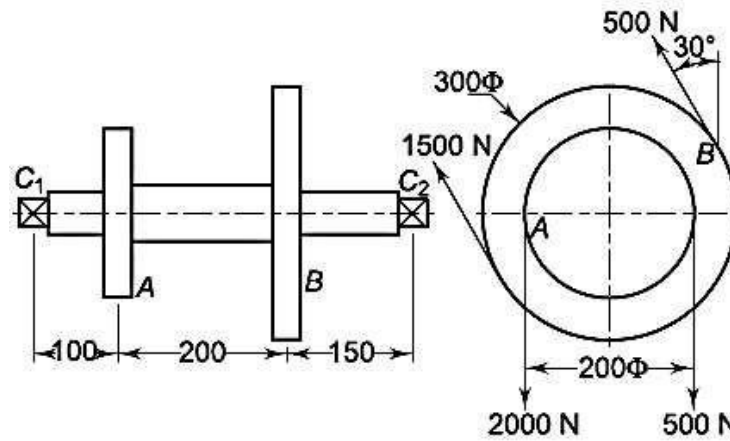

Figure 7.2
7. A transmission shaft, supporting two pulleys A and B and mounted between two bearings C_1 and C_2 is shown in Fig.7.2 Power is transmitted from the pulley A to B . The shaft is made of plain carbon steel 45C8 ($S_{ut} = 600 \text{ N/mm}^2$ & $S_{yt} = 380 \text{ N/mm}^2$). The pulleys are keyed to the shaft. Determine the shaft diameter using the ASME code if, $k_b = 1.5$ and $k_t = 1.0$. Also, determine the shaft diameter on the basis of torsional rigidity, if the permissible angle of twist between the two pulleys is 0.5° and the modulus of rigidity is 79300 N/mm^2 .